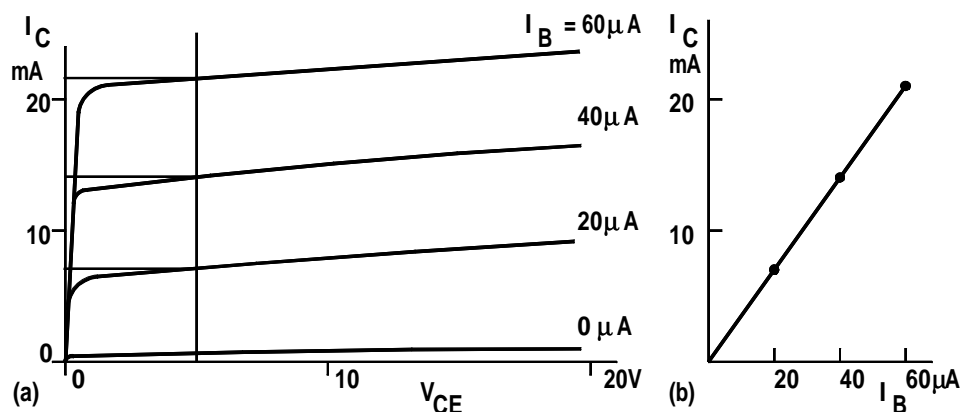

Figure 30.6: Example 30.1.
30.1 Calculate the current gain at $V_{CE} = 5\text{ V}$ for the BC109 transistor whose characteristics are shown in Figure 30.6 (a).
Draw a vertical line at 5 V . Note the collector current, I_C , for each crossing of the curves for $I_B = 0\text{ }\mu\text{A}$, $20\text{ }\mu\text{A}$, $40\text{ }\mu\text{A}$, and $60\text{ }\mu\text{A}$. Plot these values for I_C as a function of I_B as shown in Figure 30.6 (b).
- 30.1 Calculate the current gains for the transistor in the characteristics in Figure 30.6 (a) for collector voltages of 2 V and 10 V.